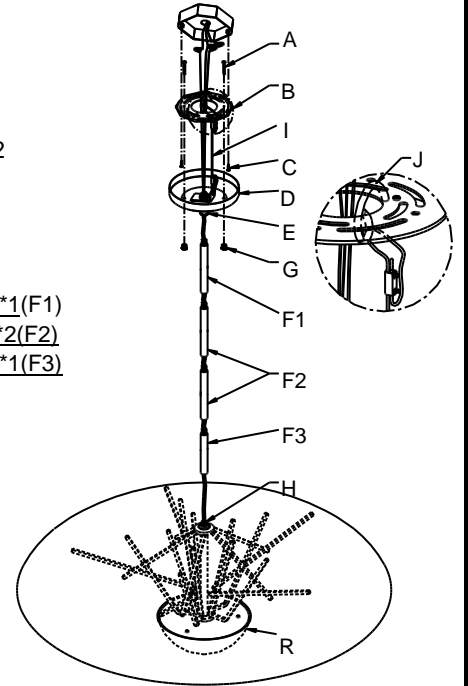

Fig. 2
CONNECTING THE WIRES (Fig. 2)
8. Connect the electrical wires as shown in Fig.2 making sure that all wire connectors are secured. If your outlet box has a ground wire (green or bare copper), connect the fixture's ground wire to it. Otherwise, connect the fixture's ground wire directly to the circular strap (B) using the green screw provided. Tuck wires neatly back into the junction box.